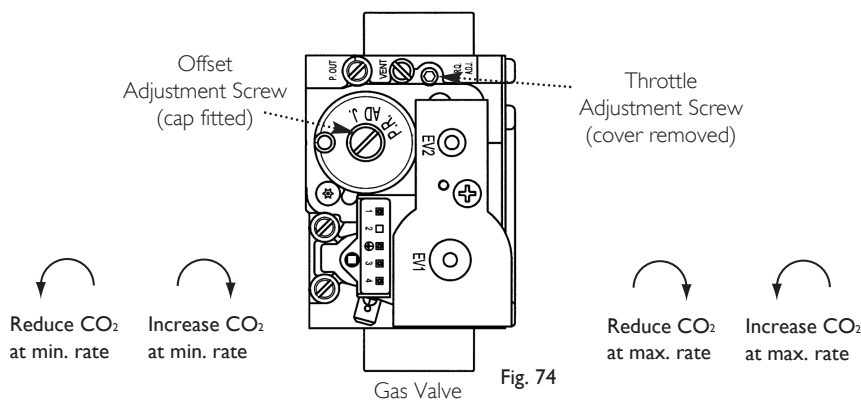

Fig. 74
8. It is possible to alter the CO₂ by adjustment of the gas valve. Remove the plastic cover from the Throttle Adjustment Screw. At maximum rate the Throttle Adjustment Screw should be turned, using a suitable hexagon key, until the correct reading is obtained (Fig. 74). Turning clockwise will reduce the CO₂. Anticlockwise will increase the CO₂.
10. With the boiler on minimum, the Offset Adjustment Screw must be altered, using a suitable hexagon key, after removing the cap (Fig. 74). Turning anti-clockwise will reduce the CO₂. Clockwise will increase the CO₂.